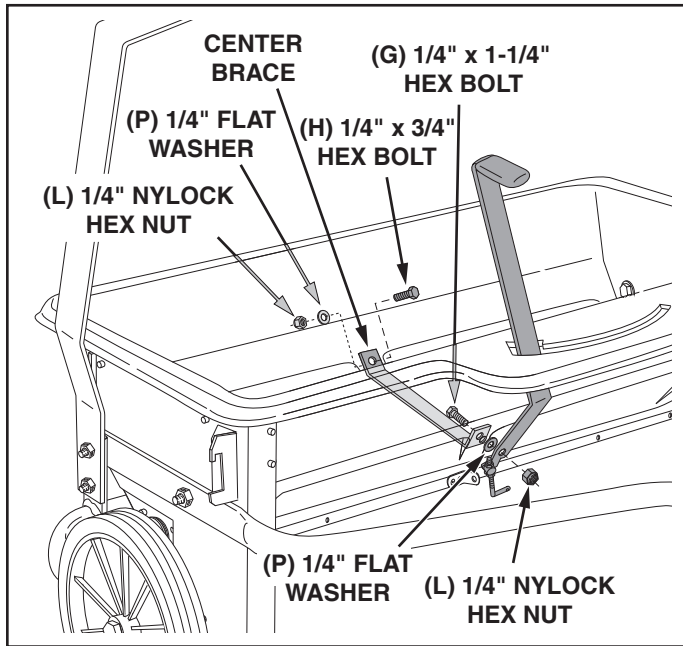

FIGURE 8
19. Place the flow control lever into the slot in the hopper. See figure 8.
20. Place the center brace into the hopper. Insert the 1/4" x 1-1/4" hex bolt through the center brace and the front of the hopper. Assemble a 1/4" flat washer, the flow control lever and a 1/4" nylock hex nut onto the bolt. **Do not tighten yet.** See figure 8.
21. Insert the 1/4" x 3/4" hex bolt through the center brace and the rear of the hopper. Assemble a 1/4" flat washer and 1/4" nylock hex nut onto the bolt. **Tighten** both the front and rear bolts. See figure 8.